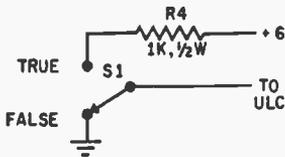

Fig. 10. Simple circuit is I/O SWITCH used to feed data to ULC's. Arm of the switch goes to ULC IN 1 or IN 2.
**Input and Output Devices.** While you can supply input signals by using a resistor and jumper wires, and can determine output levels with a voltmeter, it's more fun to use the I/O (input/output) panel. This consists of a number of s.p.d.t. slide switches, each wired as shown in Fig. 10. Mark the "true" and "false" positions on the panel. The